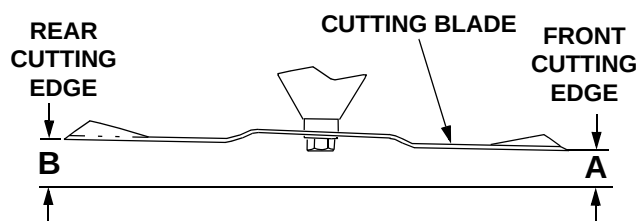

Figure 56
- Refer to Figure 56. Measure and record the distance from the front cutting edge to the ground (measurement A), and from the rear cutting edge to the ground (measurement B), for each of the blades. The front edge of each blade (measurement A) should be lower than its back edge (measurement B) by 1/8 to 1/4 inch.